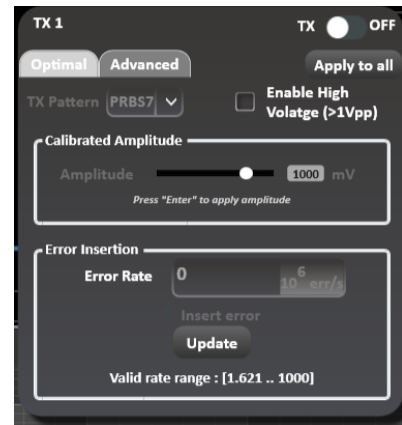

Figure 17: Tx-Off-Channel Control Locked
- Enable/Disable TX control for each channel (TX ON/OFF).** Once turned off, the control of TX settings is disabled: channel control is locked from any selections, and TX output is turned off (Figure 17).